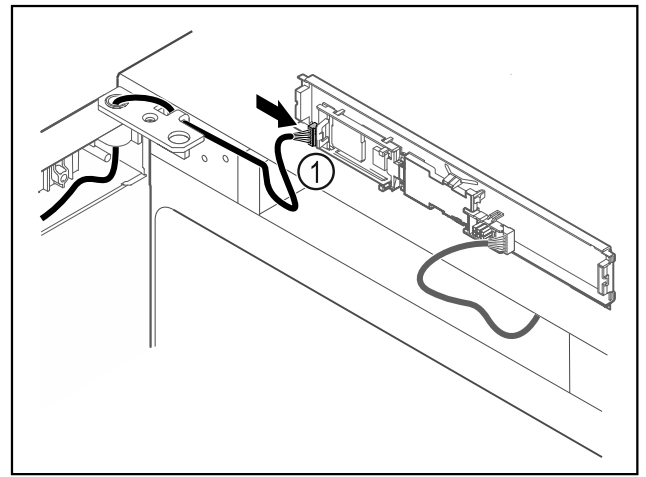

Fig. 63
- Connect the plug Fig. 63 (1) to the circuit board.